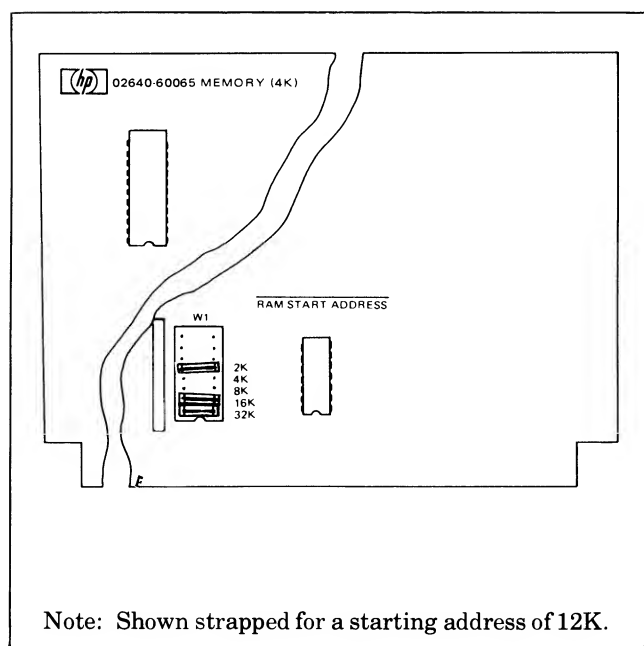

Figure 7-9. 4K Memory PCA Jumper Socket Location
3. ( ) Using figure 7-9 as a guide, locate memory jumpers on the 4K Memory PCA(s).